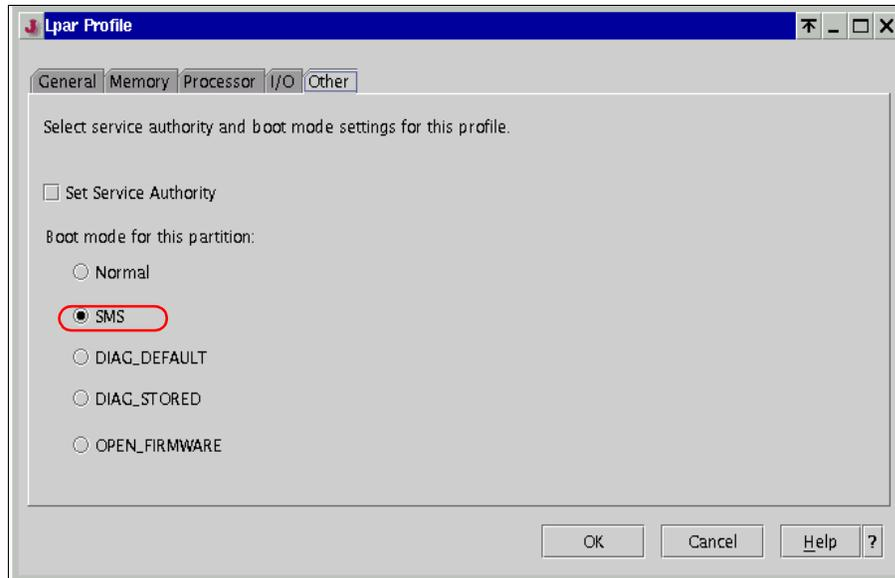

Figure 7-1 Set the boot mode to SMS
To set the boot mode to SMS, select the partition profile, right-click, select **Properties**. Select the Others tab in the properties panel of the partition profile, and then select **SMS**, as shown in Figure 7-1.
19. Now, you should change the boot mode to Normal for the partition in the partition profile (see Figure 7-1 on page 208). Otherwise, it will show the SMS panel for every reboot.